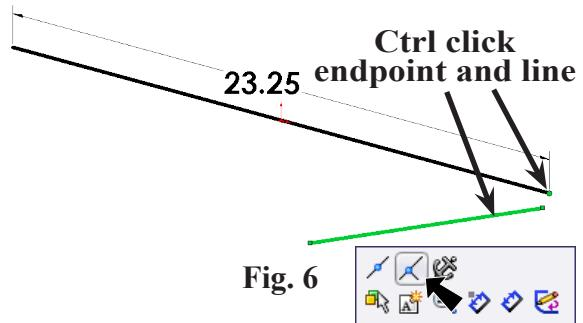

Fig. 6
Step 13. Ctrl click line and right endpoint of first line. Release Ctrl key and click Make Coincident  on the Content menu, Fig. 6.